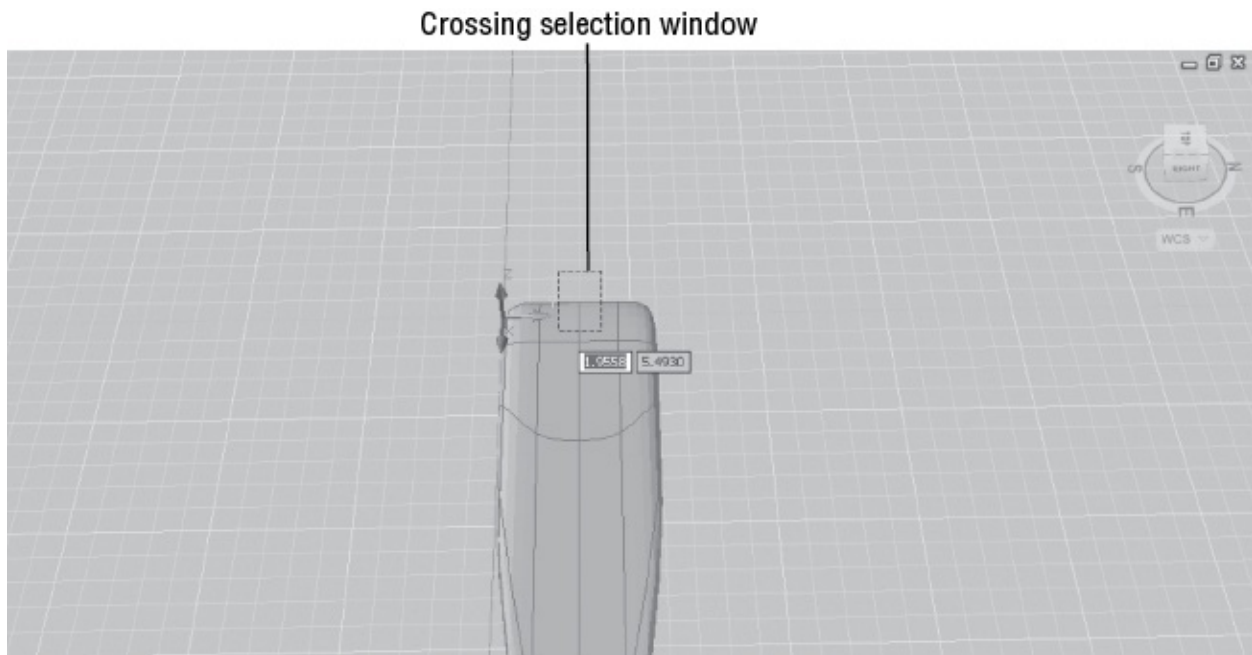

FIGURE 23.11 Place a crossing selection window as shown here. Be sure to press and hold the Ctrl key in order to make the proper selection.
1. Use the Pan tool to adjust your view so that it looks similar to Figure 23.11. This view lets you easily select and “pull” some of the faces that will become the back of the surfboard.
3. Hold down the Ctrl key, and then place a crossing selection window over the middle faces at the back edge of the box, as shown in Figure 23.11. The faces are highlighted, and you see the XYZ gizmo.